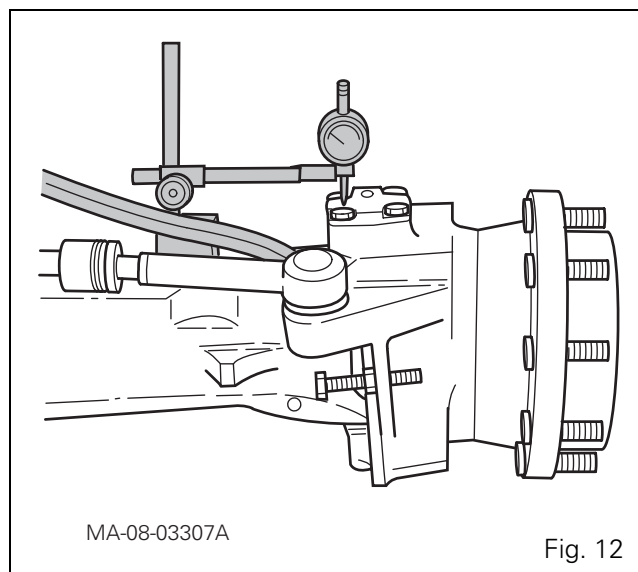

Fig. 12
69. Use a dial gauge to measure the axial clearance by moving the swivel housing vertically with a lever (Fig. 12).